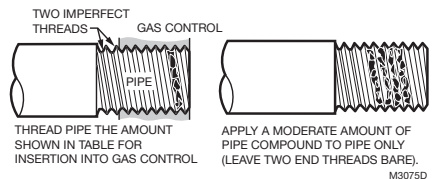

Fig. 3. Use moderate amount of pipe compound.
2. Apply moderate amount of good quality pipe compound to bushing, leaving two end threads bare. See Fig. 3. On LP installation, use compound resistant to LP gas. Do not use Teflon tape.
4. Apply a moderate amount of good quality pipe compound (do not use Teflon tape) to pipe only, leaving two end threads bare. On LP installations, use compound resistant to LP gas. Refer to Fig. 3.